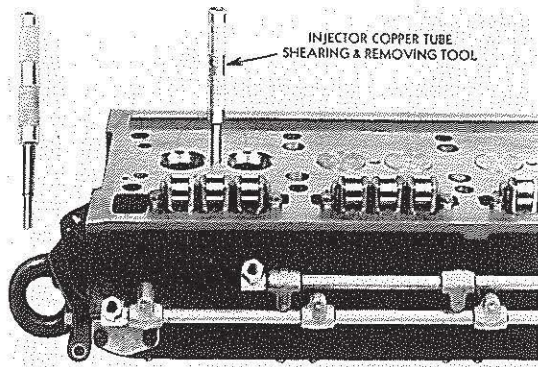

FIG. 25
1. Turn the cylinder head bottom side up and drive the copper tube from position by shearing the flange at the bottom of the tube with the special tool as shown in Fig. 25.